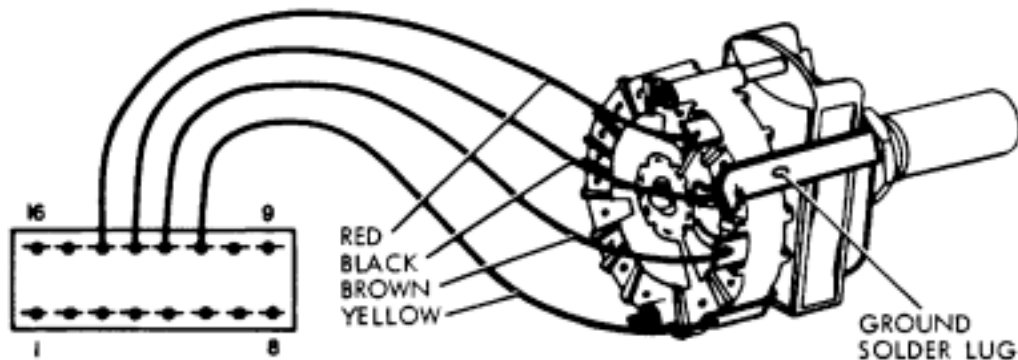

Figure 2-11
6. Unsolder and isolate the ground solder lug from the Range Switch terminal and black wire, making sure that the black wire remains attached to the Range Switch terminal (see Figure 2-11).